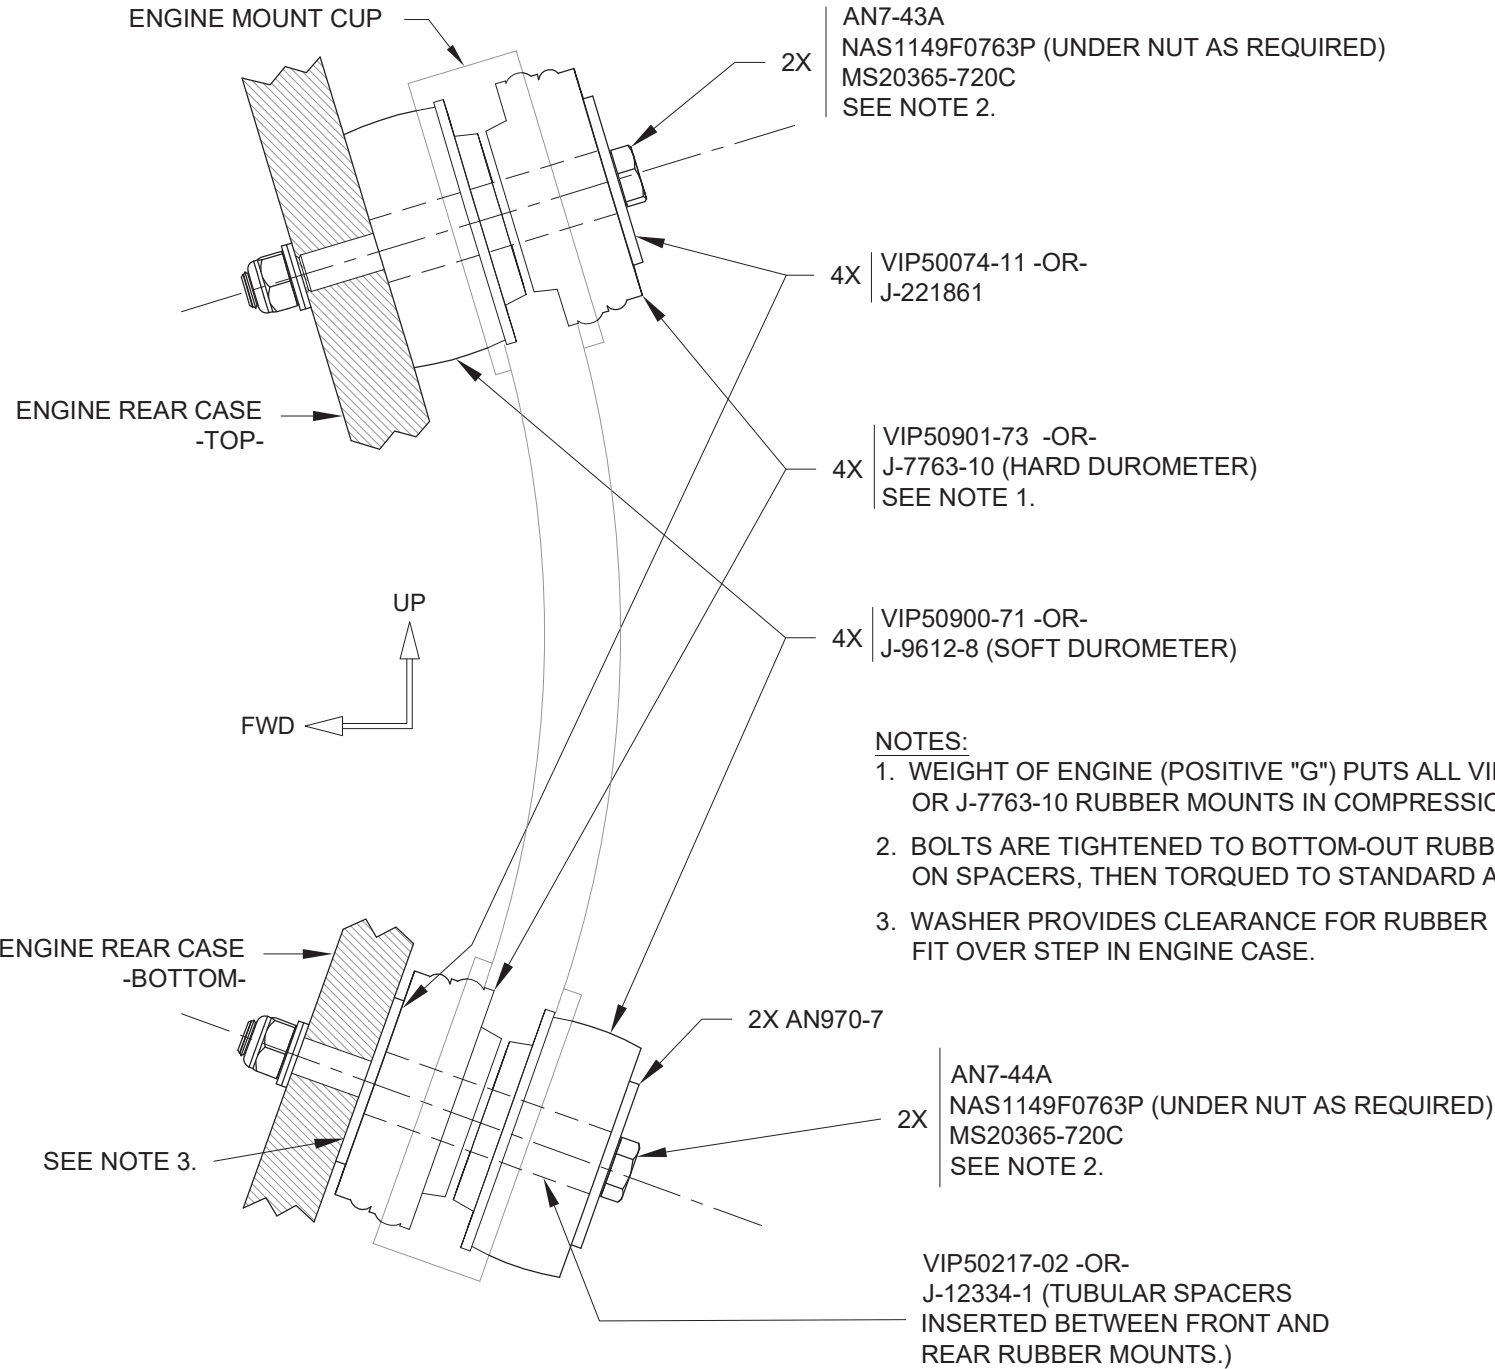

FIGURE 1: TYPICAL INSTALLATION OF DYNAFOCAL MOUNTING KIT
Step 1: Mount the engine to the engine mount using the hardware included in the EA DYNA BOLT Dynafocal Engine Mounting Bolt Kit. See Figure 1.